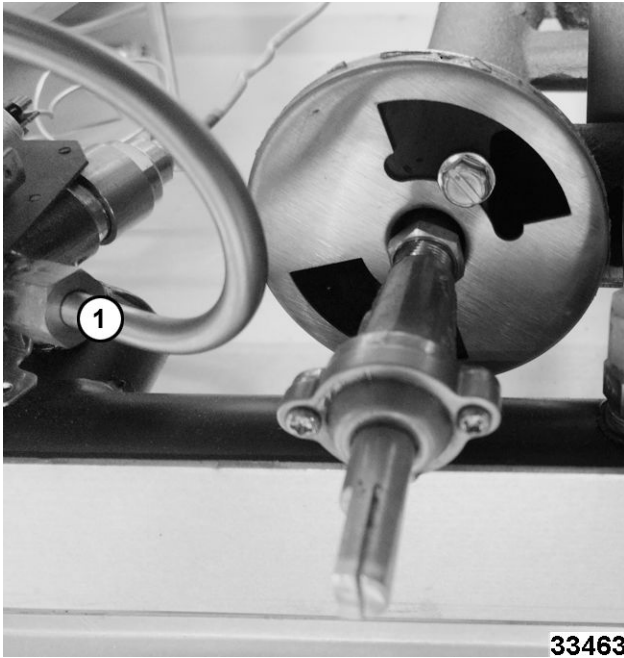

Fig. 22
4. Disconnect pilot tubing (1, Fig. 22) from thermostat assembly for clearance if needed.